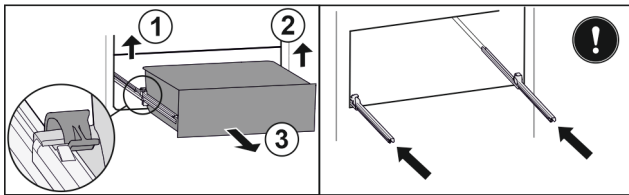

Fig. 108
- ▶ Lift left clamp and simultaneously pull drawer forwards on the left. Fig. 108 (1)
- ▶ Lift right clamp and simultaneously pull drawer forwards on the right. Fig. 108 (2)
- ▶ Remove drawer to the front. Fig. 108 (3)